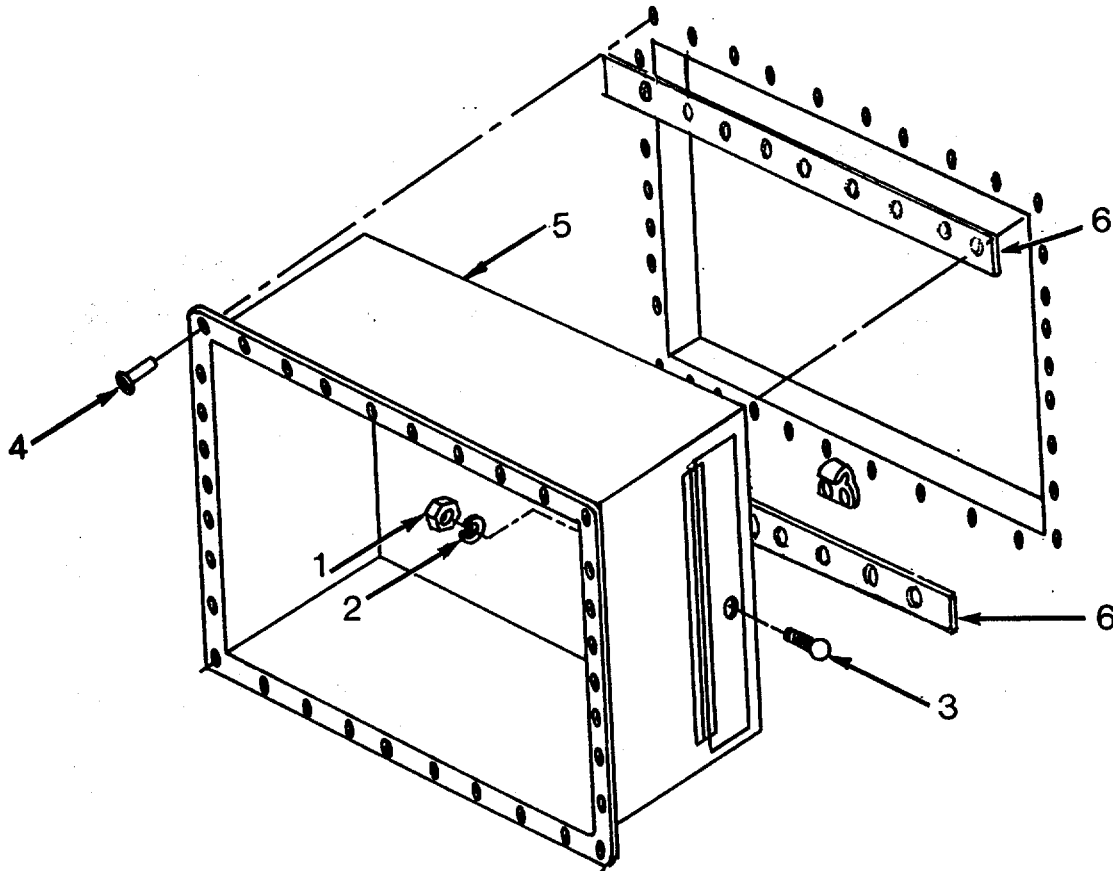

Figure 4-48. Drop-Off Box Assembly (Interior)
- (e) Remove exterior door latch (5) and spacer block (6).
- (f) Remove and install replacement gasket (7) if necessary.
- (g) Install replacement exterior door latch (5), spacer blocks (6), and secure with rivets (4).
- (h) Position spacer block (3) and replacement exterior door (2). Secure with rivets (1).
## (2) Drop-off Box. (See Figure 4-48.)
- (b) Remove nut (1), washer (2), and knob (3).
- (c) Remove rivets (4) by drilling or chiseling off heads.
- (e) Remove drop-off box (5) and spacer block (6) by pushing through wall opening from interior of shelter.
- (g) Position spacer blocks (6), replacement drop-off box (5) and secure with rivets (4).
- (h) Secure knob (3) with washer (2) and nut (1).
- (i) Install exterior door. (See paragraph (1) above.)